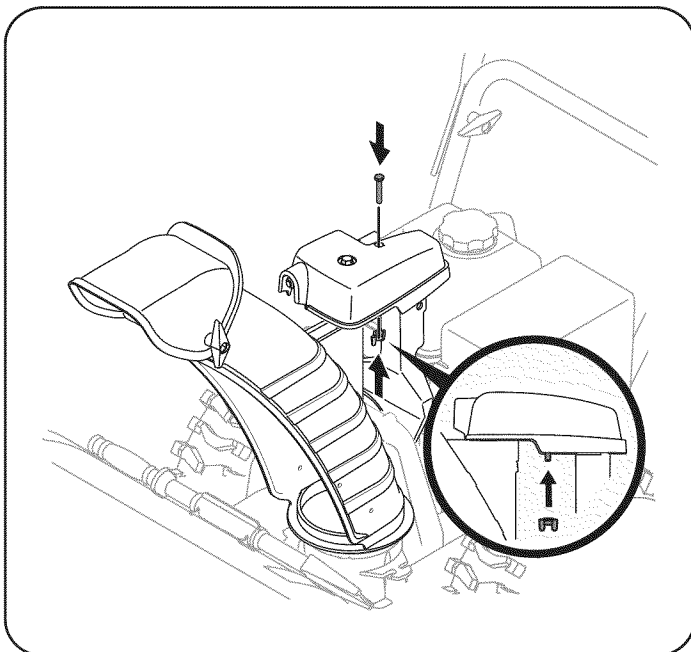

Figure 5
6. Finish securing chute control head to chute support bracket with wing nut and hex screw removed earlier. See Figure 5.